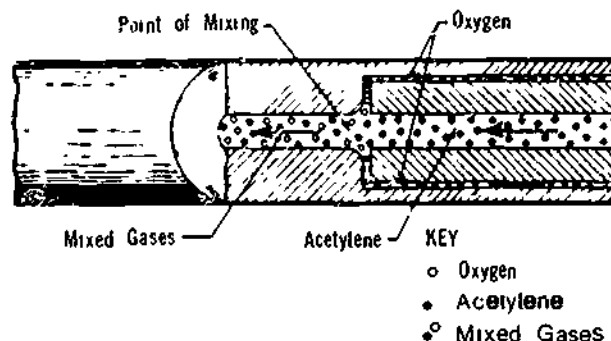

Figure 8-42. Medium Pressure Mixer
**Medium Pressure Mixer** The two gases enter the torch at approximately equal pressures and are forwarded to the mixing chamber (Figure 8-42)